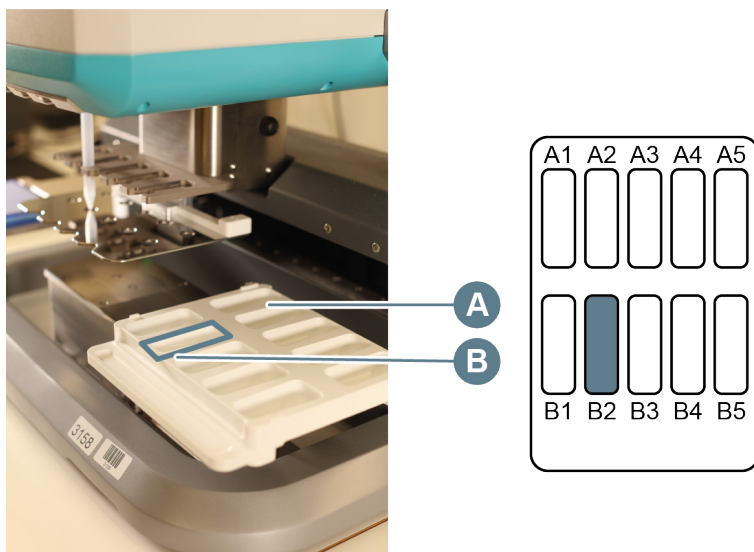

Figure 22. Disposable reservoir in reservoir tray of the Dragonfly.
2. Slide the reservoir tray to the filling position (A) and place a new reservoir in position B2 (B) (*Figure 22*).